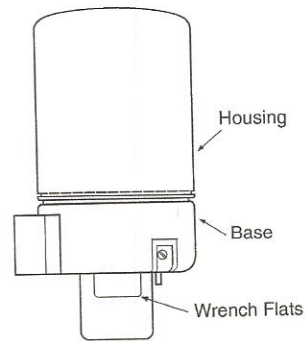

Figure-4 Housing and Base Location.
**Caution:** Do not twist or exert any force on the actuator housing during installation. Either turn the base by hand or, if necessary, use a 1-5/8" open-ended wrench (TOOL-37) on the flats provided on the actuator base or the valve body mounting nut (refer to Figure-4).